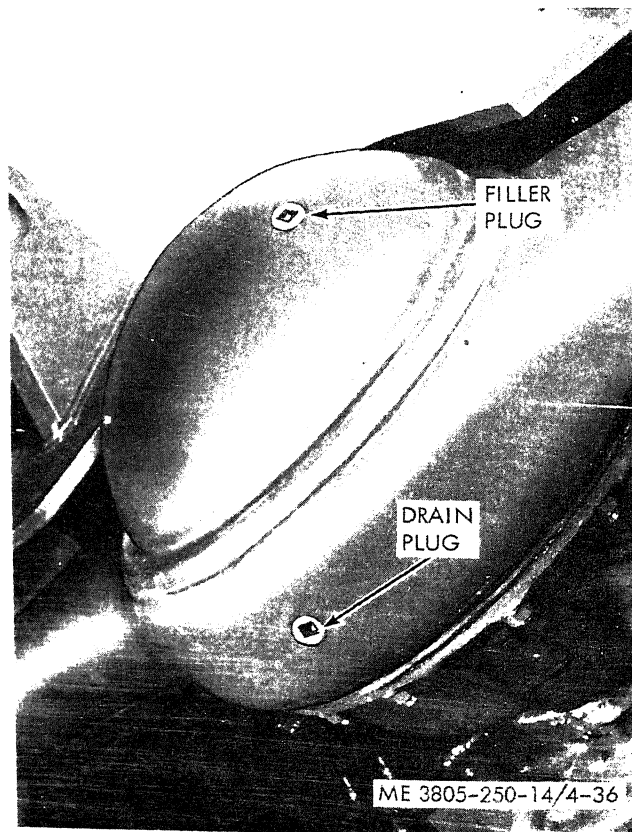

Figure 4-36. Differential service.
(2) Clean all oil lines and fittings before removal. If several lines are to be replaced, tag lines to ensure proper installation.
(3) Disconnect clamps or attaching hardware and remove line which is to be replaced.
(4) Install a new line by reversing the removal procedure.
c. *Differential Service.* Remove the differential filler plug (fig. 4-36). Oil should run out of opening. If level is low, add oil as necessary. Refer to the Lubrication Order for the correct lubricant. Differential capacity is 13 quarts.